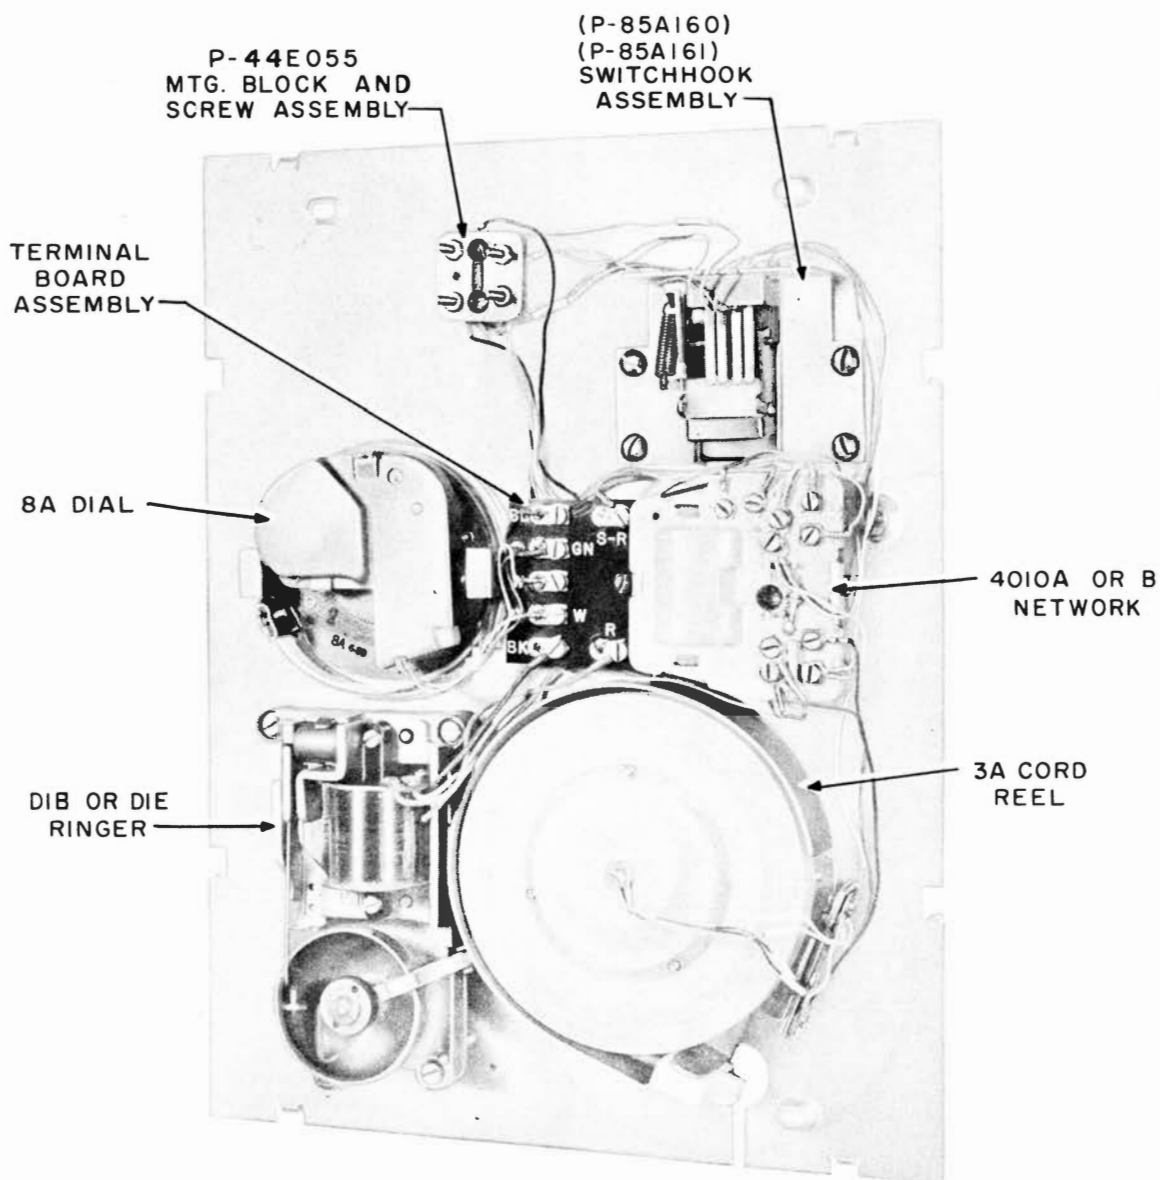
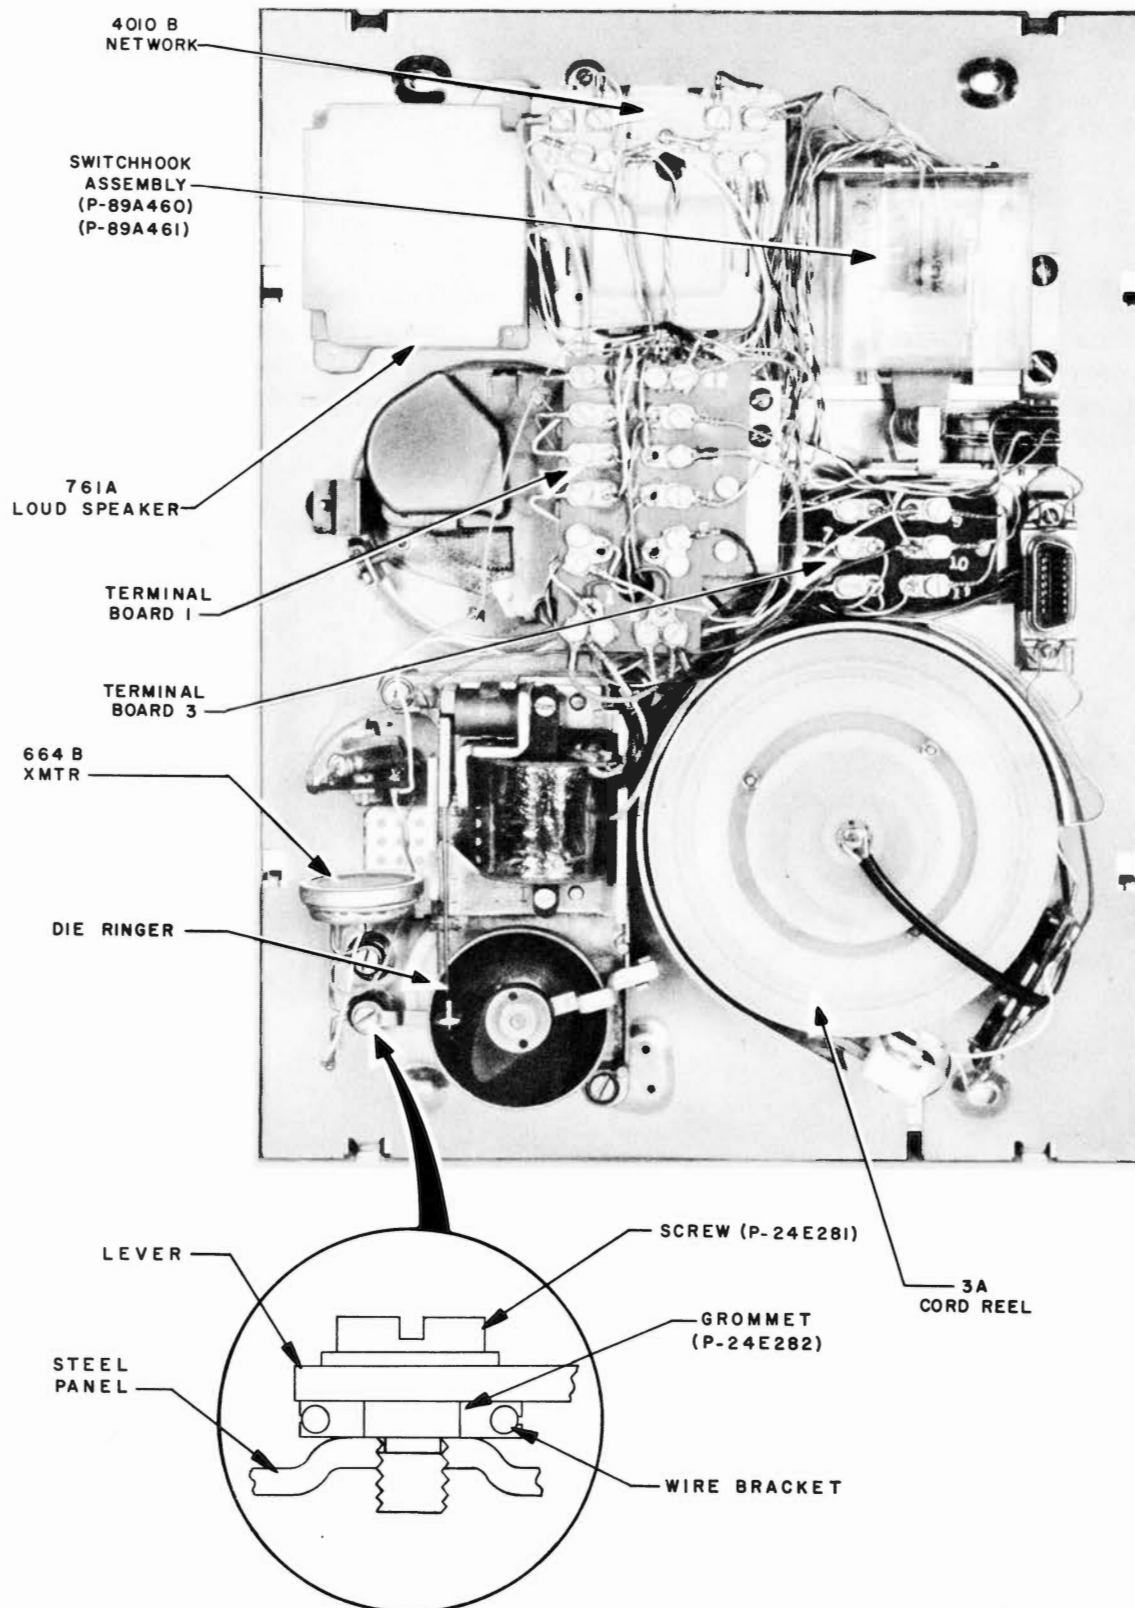

Fig. 1 - Components of Panel, Rear View
Fig. 2 - 751-Type Telephone Set with 1A Home Interphone Components Rear View
1.01 This section covers maintenance information for the 750A and 750B (Fig. 1) and 751A and 751B (Fig. 2) telephone sets.
2.09 The component parts of these telephone sets are screw fastened to the steel panel. Defective components normally available from stock may be replaced in the field. See Fig. 1 and 2 for location and piece part numbers.